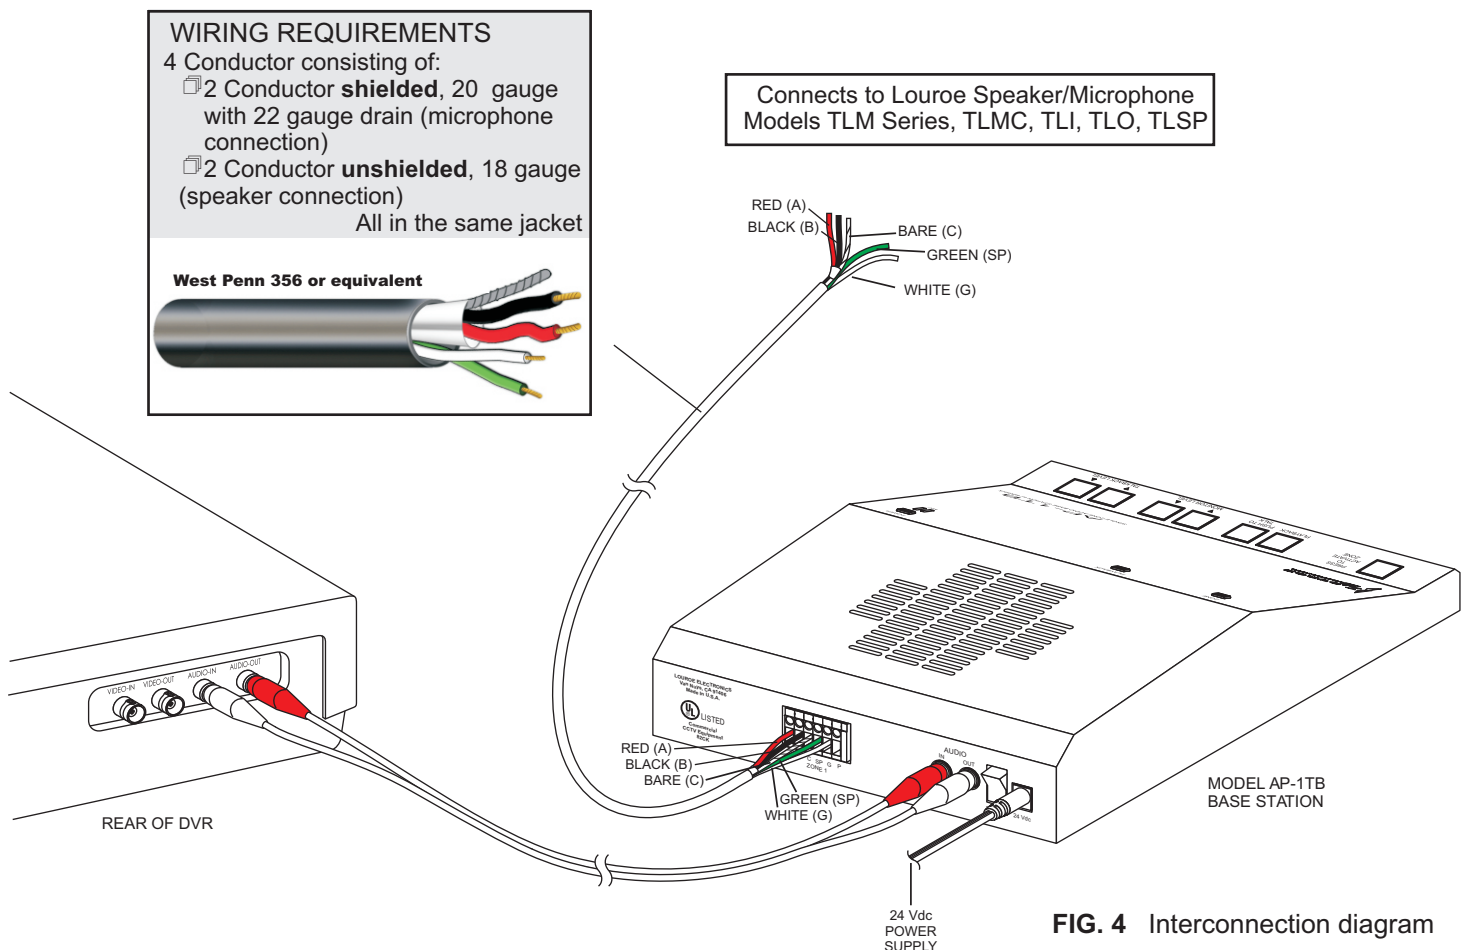

FIG. 4 Interconnection diagram
- 1) Connect one end of cable to remote speaker/microphone as shown in Fig. 4. Use 4 conductor shielded audio cable such as West Penn 356. Connect wires wrapped with overall shield to terminals "A", "B", and "C" of Speaker/Microphone's terminal block. When using West Penn 356, connect **red** wire to terminal "A"; **black** wire to terminal "B" and **bare** wire to terminal "C".